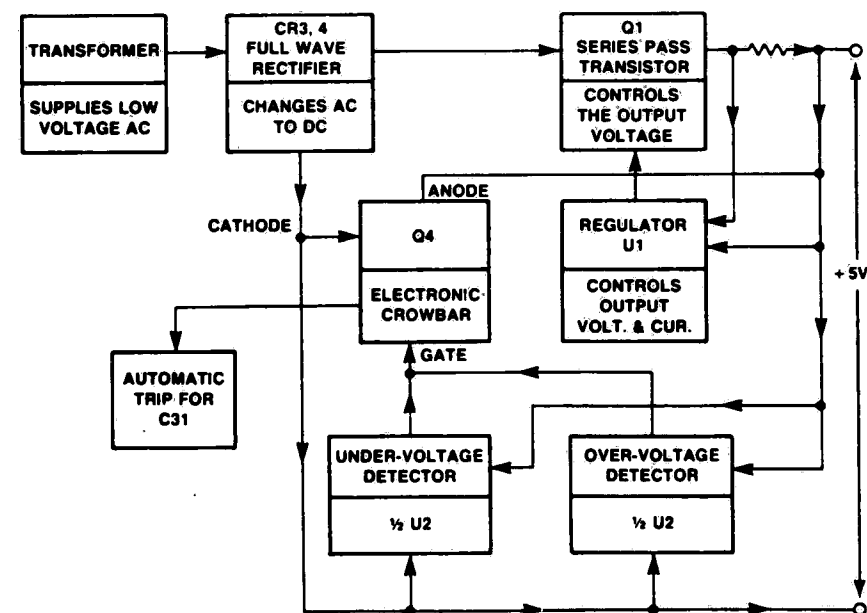

Figure 3-13. PRINTCON 5-VOLT POWER SUPPLY.
- +5 volts direct current (VDC) at 2.5 amp voltage regulated with current limit and electronic crowbar over- and under-voltage protection (Figure 3-13).